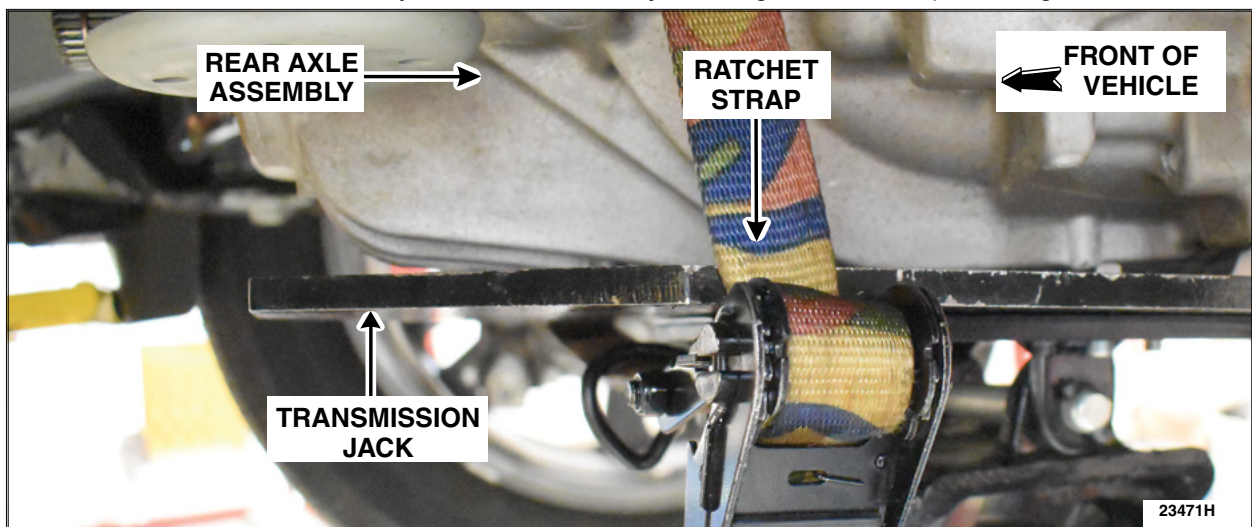

FIGURE 9
16. Secure the rear axle assembly to the transmission jack using a ratchet strap. See Figure 9.